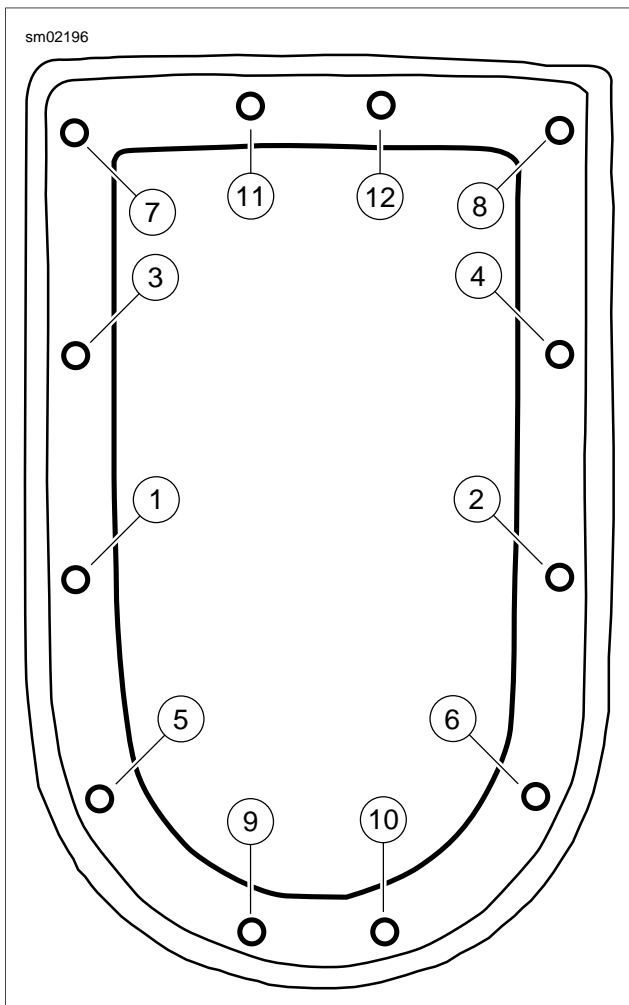

Figure 8-49. Top Plate Torque Sequence:
2. Install fuel pump/sender wire connector (4) on top plate (3).
5. For FXDWG/FXDC/FXDF models, see Figure 8-49. Tighten sealing fasteners using pattern shown to 20 in-lbs (2.26 Nm).